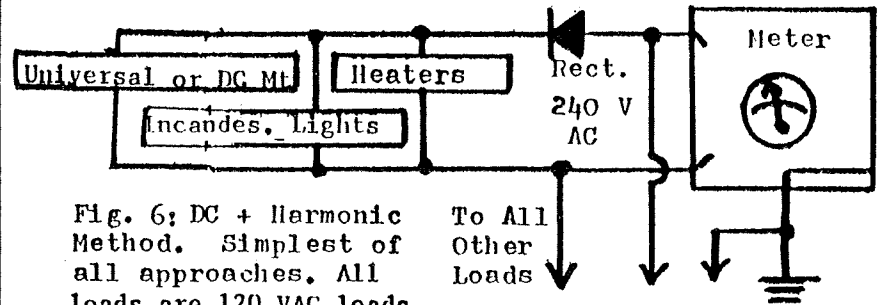

Fig. 6: DC + Harmonic Method. Simplest of all approaches. All loads are 120 VAC loads.
3) HARMONIC LOADS: This method is most practical and easiest to achieve, and it does not require special equipment or filtering of other loads. See Fig. 6. However, much greater harmonic power is required for the same effects. According to Fourier Theory, all waveforms are composites of simple sine waves of certain frequencies, phases and amplitudes. When a 60 Hz sine wave is half-wave rectified, DC and 60 Hz components are produced along with an infinite number of harmonics that rapidly diminish in power content. The DC component will brake the meter movement while the harmonics will diminish the total meter reading by making the meter behave in an erratic fashion. Rectifier must be rated such that its steady state current rating is at least twice the sum of all universal or DC motors, incandescent lighting and heater element steady-state load currents. Rectifier surge current rating should be at least three times the combined surge currents for all loads. Minimum PIV should be 800 volts. Transient suppression is highly recommended. If there is a lot of motor brush sparking, filter out all AC components for a DC motor, and all harmonics for an AC motor. If the AC motor tends to overheat, also filter out some, if not all of the DC component.